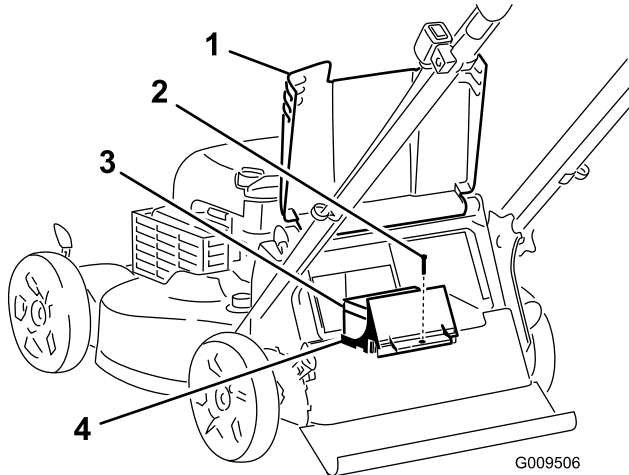

Figure 31
1. Raise the rear deflector and locate the battery compartment (Figure 31).